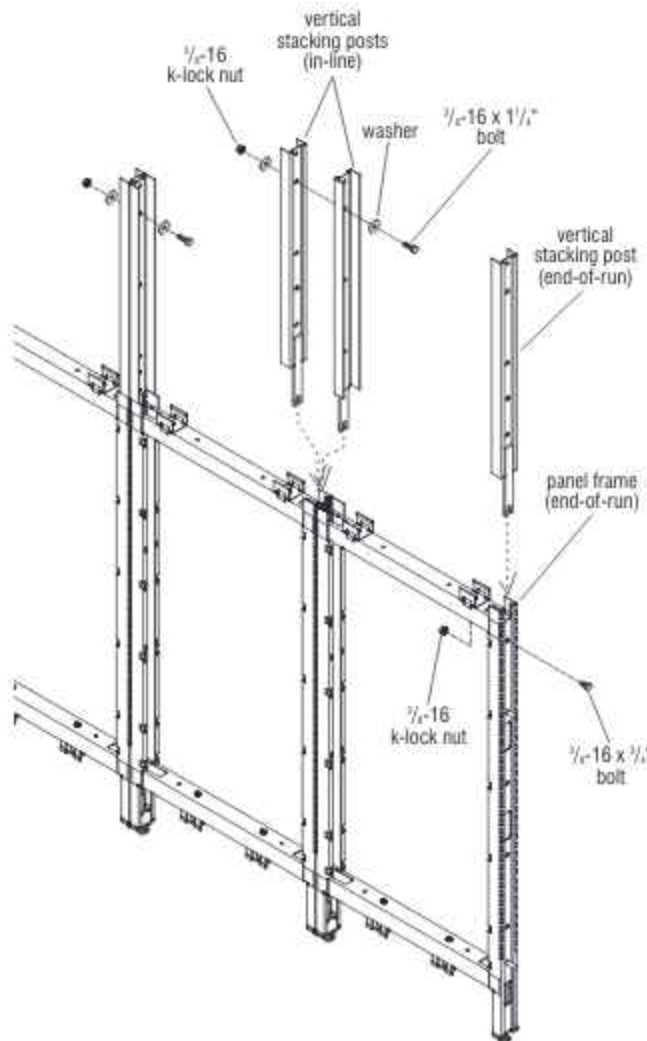

Figure 14 - Stacking Sections (aluminum frame) - End-of-Run & In-Line
**Note:** Installation of "Stacking Sections (aluminum frame) - Full-Height Intersection Assembly" is covered on page 9. Figure 9. The steps below and Figure 14 illustrate in-line assembly.
1. At a joined pair of panel frames, position two vertical stacking posts side-to-side as illustrated, and press them into the cavity at the top where two panel frames meet. Posts may be tapped in place one at a time using a rubber mallet. If necessary, loosen the bolt securing the upper vertical member of the panel frames, tap the vertical stacking posts in, then re-tighten the bolt (Figure 14).
2. Secure the side-to-side vertical stacking posts together using a  $\frac{3}{16}$ -16 x  $1\frac{1}{4}$ " hex head bolt, two washers and a  $\frac{3}{16}$ -16 k-lock nut (Figure 14).
**Note:** The nut must be positioned inside the panel frame and flat washers are not required. Next, place a vertical stacking post at end of the panel frame as illustrated, with the notch of the stacking post fork resting on the  $\frac{3}{16}$ -16 x  $\frac{3}{4}$ " bolt thread. Tighten the hex bolt and k-lock nut to secure (Figure 14).